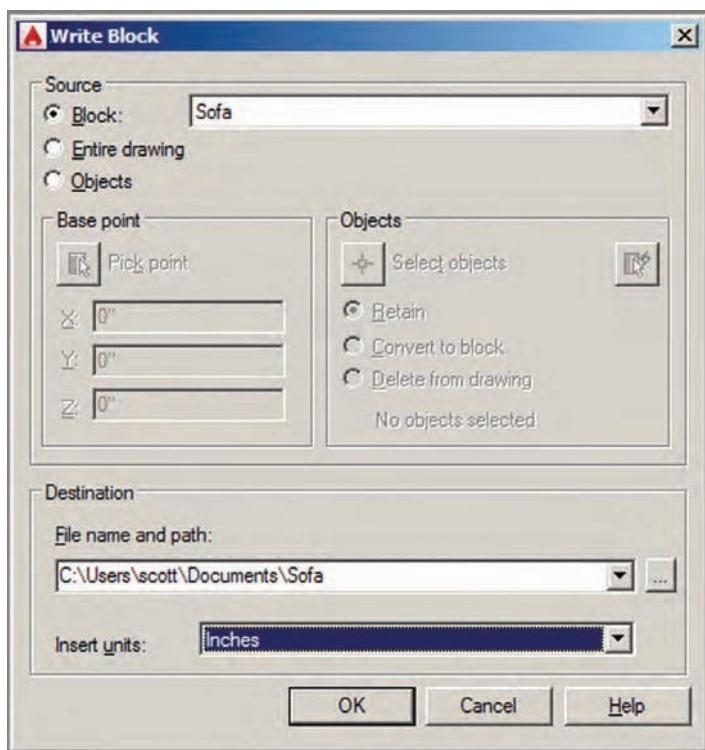

FIGURE 9.1 Writing a block to a file
1. Type **W** (for Write block) and press Enter. Select the Block radio button in the Source area of the Write Block dialog box. Select Sofa from the Block drop-down. Select Inches (or Centimeters for metric) from the Insert Units drop-down in the Destination area (see Figure 9.1). Click OK, and the geometry within the Sofa block definition is written to Sofa.dwg.